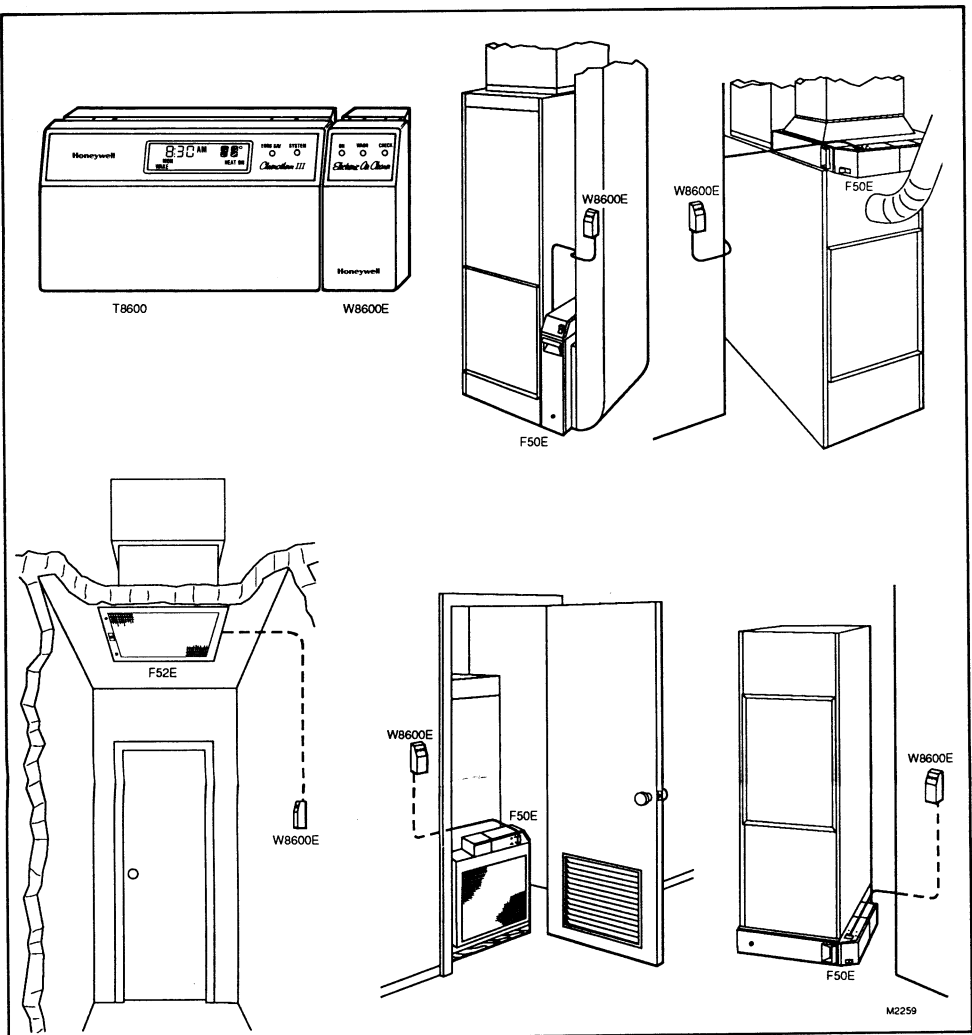

Fig. 5—Completed W8600E installation examples.
The styling of the W8600E is designed to blend with the T8600 family of Microelectronic Chronotherm Thermostats, or may be installed independently. A special mounting template is included for mounting next to the T8600. The W8600E indicator can, however, be mounted at any other convenient location in the living area, or it may be mounted in the furnace room (see Fig. 5). It shares no common electrical connections with the thermostat.
- Install the W8600E cover and visually check the installation's appearance as shown in Fig. 5.